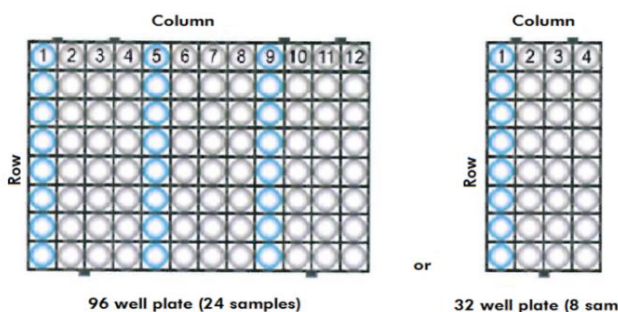

Figure 5. Types of cartridges and set up
4. Pipet 200 µl sample into the bottom of the first column (marked in blue in Fig. 5).